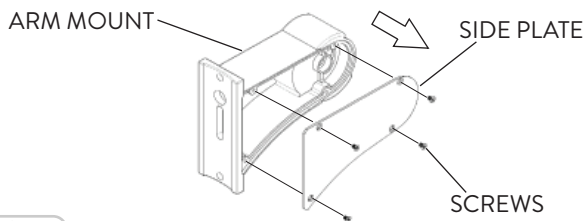
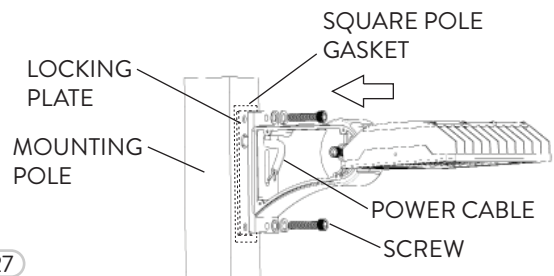

FIG. 24
FIG. 27
- 4 Remove the Screws (4) and the Side Plate from the Arm Mount before installing the FFLA/2 fixture (Fig 24).
- 7 Run the Power Cable through the Pole. Place the Locking Plate and Gasket inside the Mounting Pole and fasten the FFLA/2 fixture with the Arm Mount onto the Pole with the Cap Head Screws (Fig. 27). For the Round Pole, repeat Steps 2-6, except the remove the Square Pole Gasket for Step 2. Reinstall the Side Plate (Fig. 24).